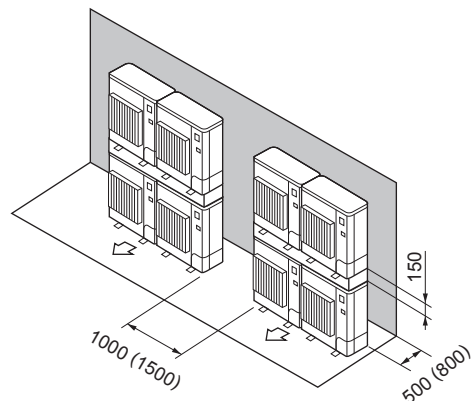

Fig. 1-17
- ⑦ Stacked unit arrangement (Fig. 1-17)